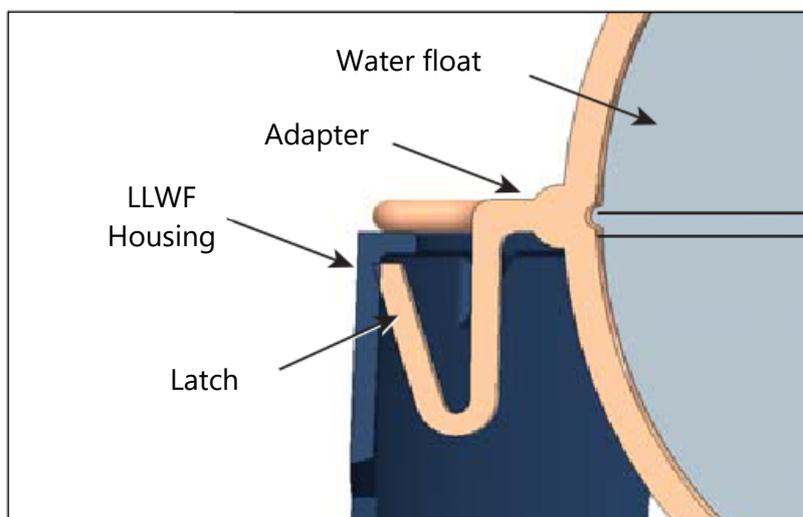

Figure 3: Correct Adapter Latch Position Under LLWF Housing Flange
5. Check the six latches on the adapter to ensure they are fully seated under the flange of the LLWF housing. Failure to do so could result in loss of the Low Level Water Float (see Figure 3).